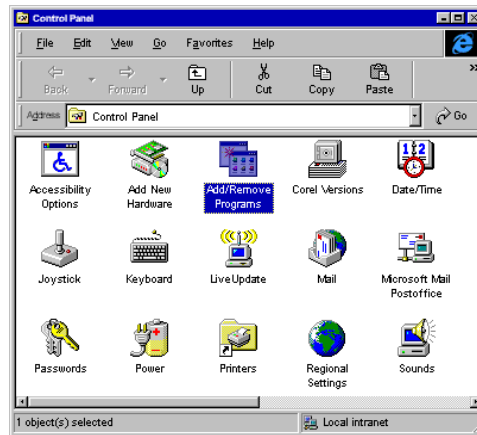

Figure 1- 1. Selecting the Add/Remove Programs icon in Control Panel
- In the Control Panel, double-click the *Add/Remove Programs* icon (Figure 1- 1).